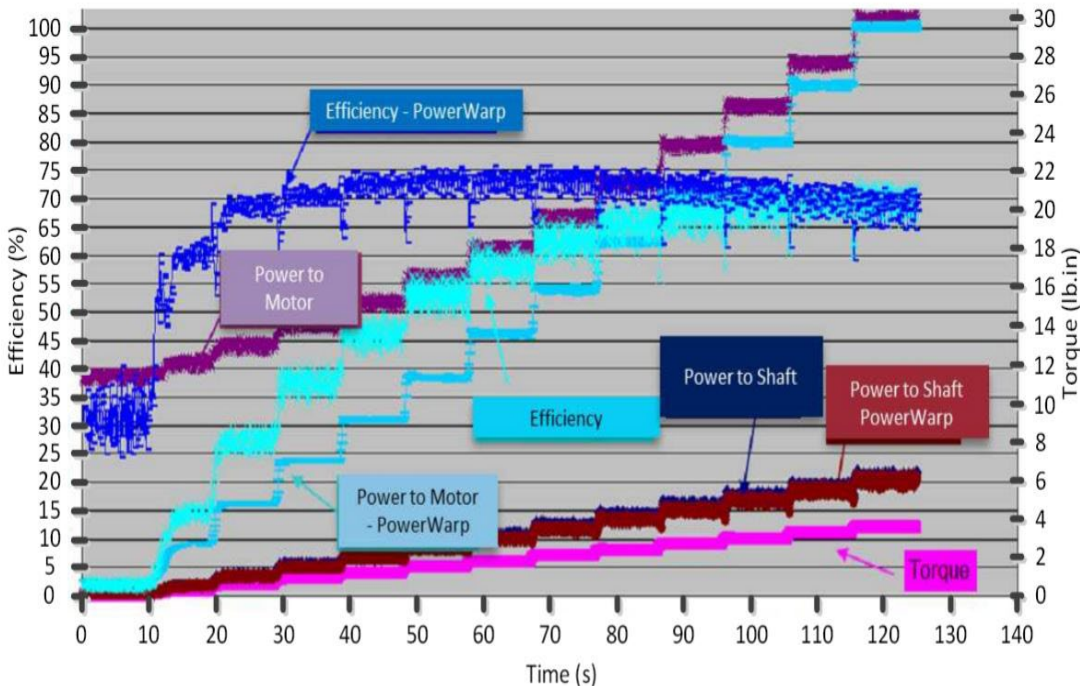

Figure 2 PowerWarp improves motor efficiency.
Figure 2 is a real-world test of a very standard one-fourth horsepower (HP) induction motor used widely in industry, which struggles to achieve higher than 70-75% efficiency at rated speed, rated load. When the load is lower, notice how the efficiency quickly degrades. However, with PowerWarp enabled the efficiency curve is nearly flat with just a nominal load.